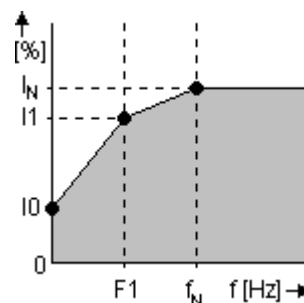

Fig. 6.14: I2t characteristic curve asynchronous motor
- the fact that the motor reaches its maximum permissible temperature at rated current in a steady state. Here, the rated current is specified by the frequency curve of  $I^2t$ . See Fig. 6.14:  $I^2t$  characteristic curve asynchronous motor